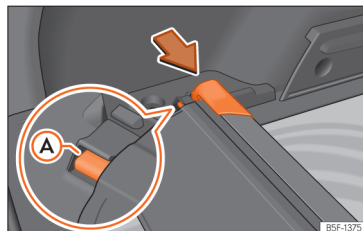

Fig. 187 In the boot: space to store the retractable shelf.
- Press the head of the retractable shelf in the direction of the arrow until it engages in its housing >>> **Fig. 187**. Make sure that slide ① fits into the corresponding housing.